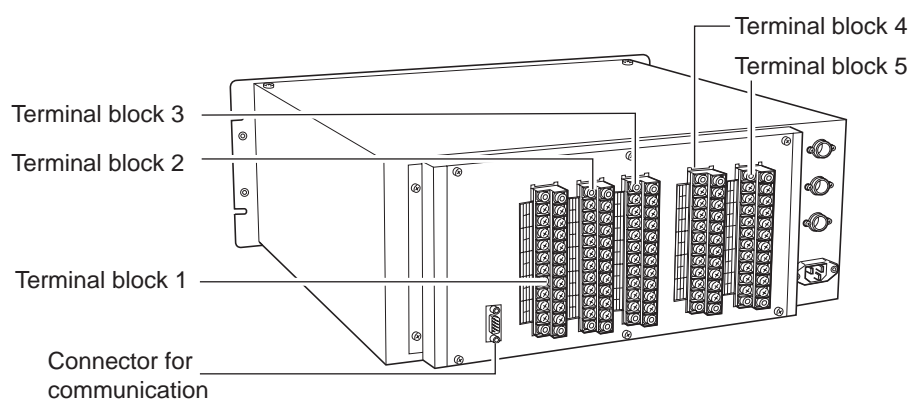

Fig. 3-3 Rear panel
Each external terminal is provided on the rear panel of the analyzer. (See Fig. 3-3)
Wire each terminal, referring to Fig. 3-3 and (1) to (7).